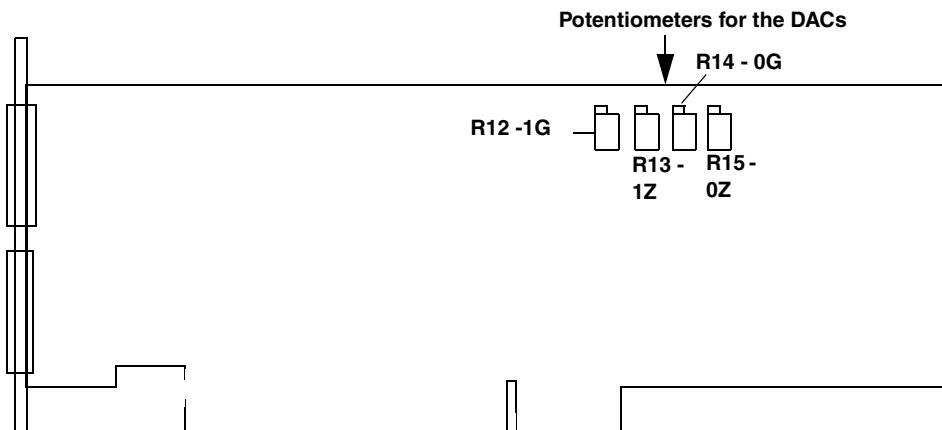

Figure 79: Location of Potentiometers R12 to R15 on the DT3016 Board
8. Physically adjust potentiometer R15 (labelled 0Z) on the DT3016 board until the display reads -9.3750 V (within 0.001 V). Figure 79 shows the location of this potentiometer.
10. Physically adjust potentiometer R14 (labelled 0G) on the DT3016 board until the display reads $+9.3750$ V (within 0.001 V). Figure 79 shows the location of this potentiometer.
13. Physically adjust potentiometer R13 (labelled 1Z) on the DT3016 board until the display reads -9.3750 V (within 0.001 V). Figure 79 shows the location of this potentiometer.
15. Physically adjust potentiometer R12 (labelled 1G) on the DT3016 board until the display reads +9.3750 V (within 0.001 V). Figure 79 shows the location of this potentiometer.